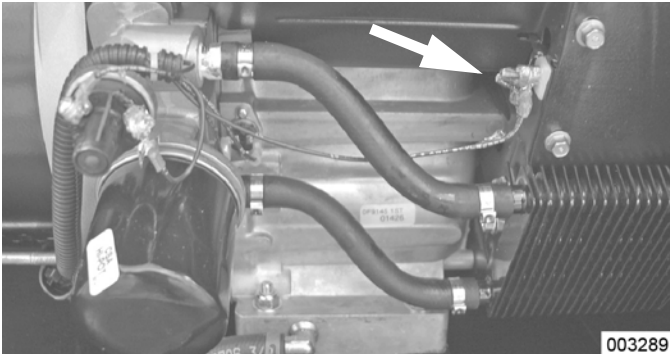

Figure 4-83. Wire 18 Connection – Nexus V-Twin Units
- **Nexus V-twin units** – See Figure 4-83. Remove Wire 18 from the stud located above the oil cooler.
- **Nexus V-twin units** – See **Figure 4-83**. Remove Wire 18 from the stud located above the oil cooler.